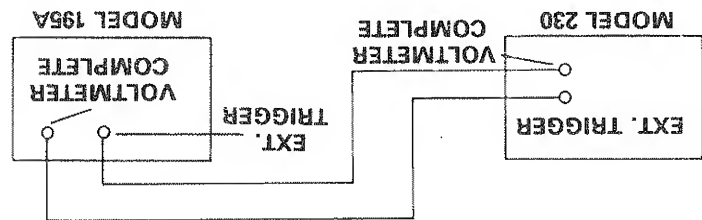

Figure 2-5. External Trigger Connections
1. Connect the Model 195A to the Model 230 as shown in Figure 2-5. Use suitable shielded cables with BNC connectors. The Model 195A VOLT-METER COMPLETE OUTPUT should be connected to the Model 230 EXTERNAL TRIGGER INPUT. The Model 195A EXTERNAL TRIGGER INPUT-PUT should be connected to the Model 230 EXTERNAL TRIGGER OUTPUT.